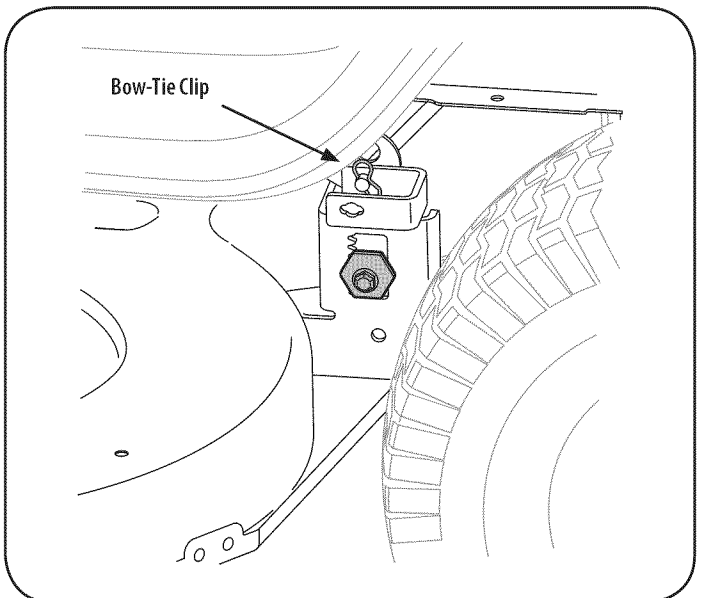

Figure 19
- Looking at the cutting deck from the left side of the tractor, locate the bow-tie pin that secures the deck support rod on the rear left side of the deck. See Figure 19. Remove the bow-tie pin that secures the deck support rod, and carefully remove the deck support from the deck lift arm.